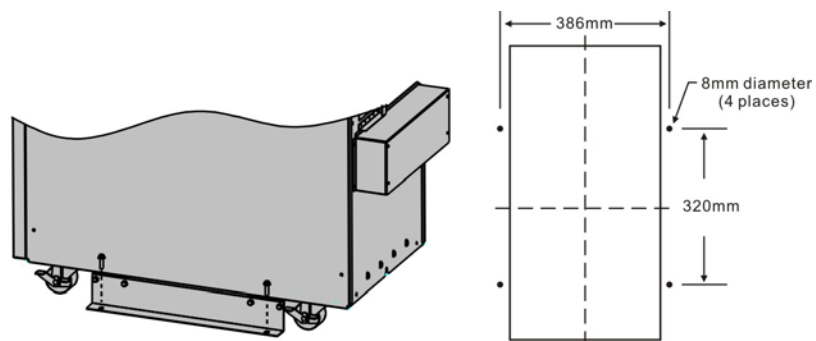

Fig. 4-5 Additional stability
- 4) Once the installation is completed, the side mounting brackets (used in shipping) shall be fixed back to ensure the stability of the UPS enclosure. If impossible, additional stability can be added by anchoring the mounting brackets to the floor with M8 bolts. See Fig. 4-5.